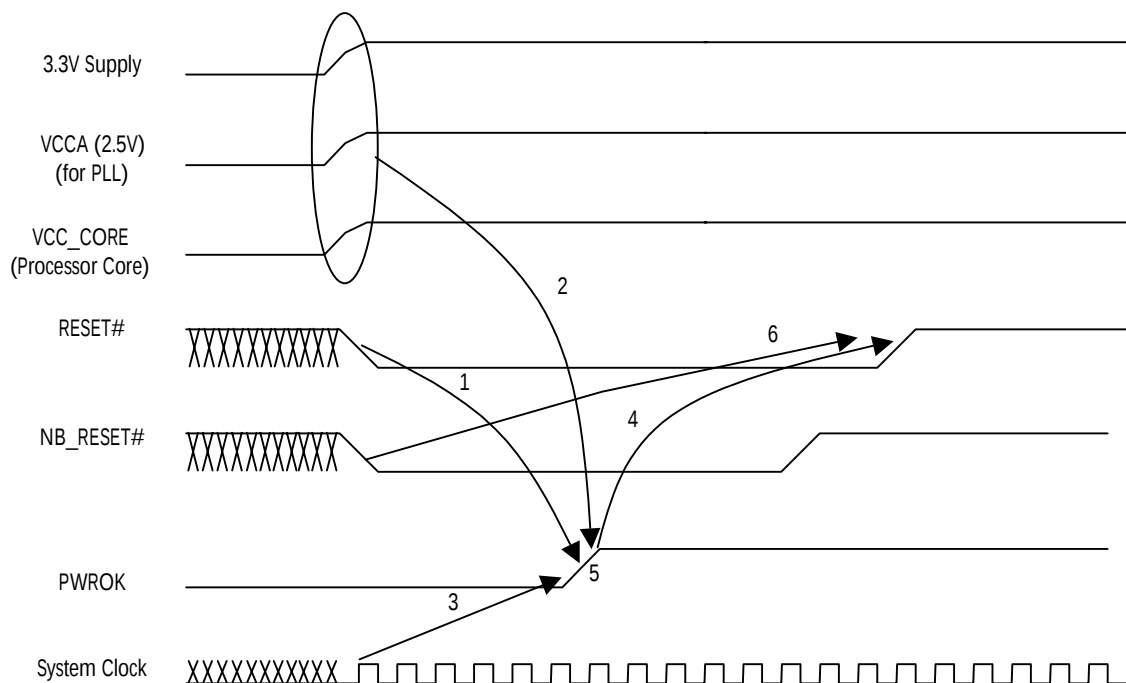

Figure 10. Signal Relationship Requirements During Power-Up Sequence
Figure 10 shows the relationship between key signals in the system during a power-up sequence. This figure details the requirements of the processor.
Note: Figure 10 represents several signals generically by using names not necessarily consistent with any pin lists or schematics.
2) Requirements 1-6 in Figure 10 are described in the following section.
Power-Up Timing Requirements. The following signal timing requirements correspond to numbers 1-6 in Figure 10 on page 35.